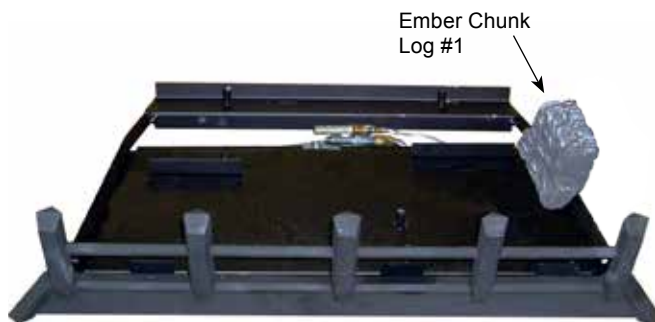

Figure 26 -
1. Place the #1 log (the "chunk") on the grate bar right side of the burner adjacent to the controls. *Figure 26*